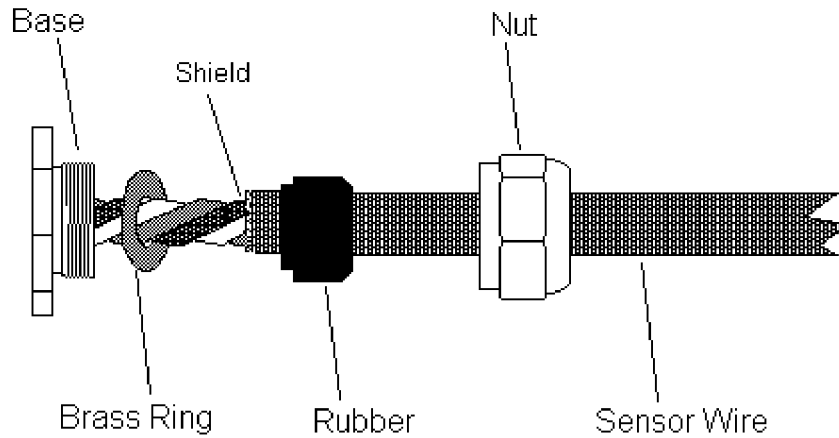

Figure 2.2.1 Cable gland assembly without grounded shield
2. All cable shields should be grounded to the cable gland of the central processing controller box. Therefore the cable shield of the display should not be grounded to the cable gland using the brass ring. The cable gland is assembled as shown in figure 2.2.1.